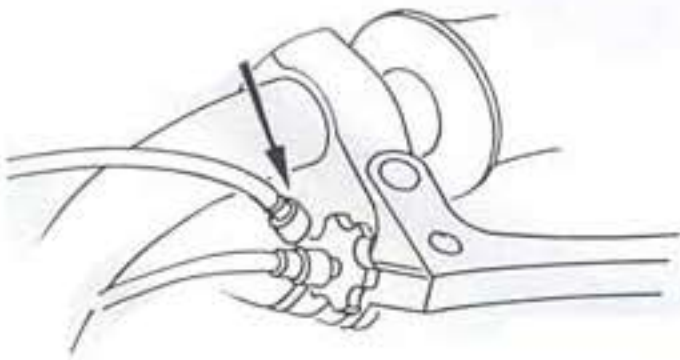

Fig. 4
- Adjust the tension at the choke lever adjuster (a small amount of free movement is required and should not exceed  $\frac{1}{4}$ ", fig. 4).